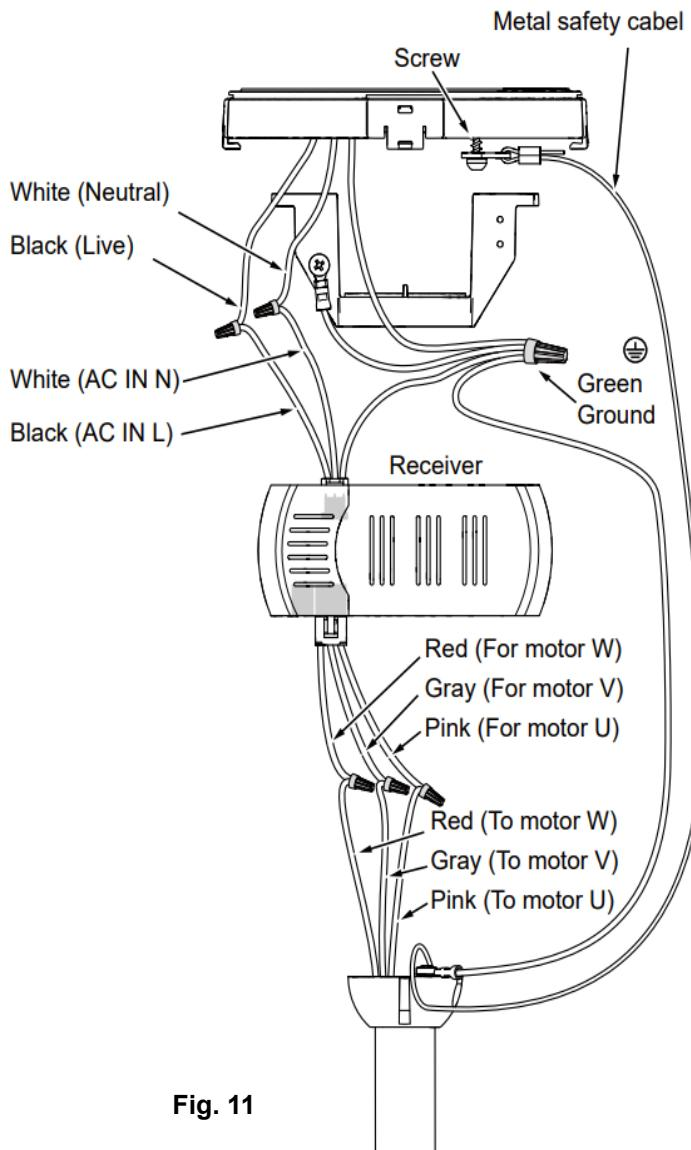
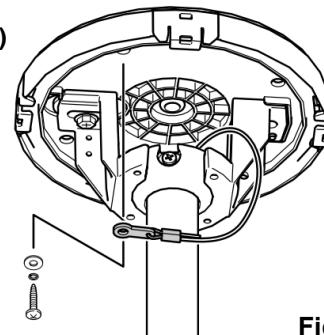

Fig. 11
Fig. 12
- Complete the electrical wiring according to the 'ELECTRICAL WIRING DIAGRAM' section below. (Fig.11)
1. Connect the household live supply wire (black) to receiver input wire (black, AC IN L) as shown in (Fig. 11)
7. Installed the metal safety cable into the house structure beams using the machine screws and flat washer which provided, make sure that when the safety cable is fully extened the lead wires are longer than the cable and no stress is placed on the lead wires. (Fig. 11 & Fig.12)